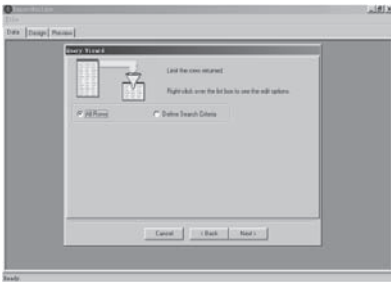

Fig. 8.10
2.7 Select the ordering conditions as in Fig. 8.10. Natural Order means not ordering and Set Order means selecting the ordering fields. Then click “Next”.